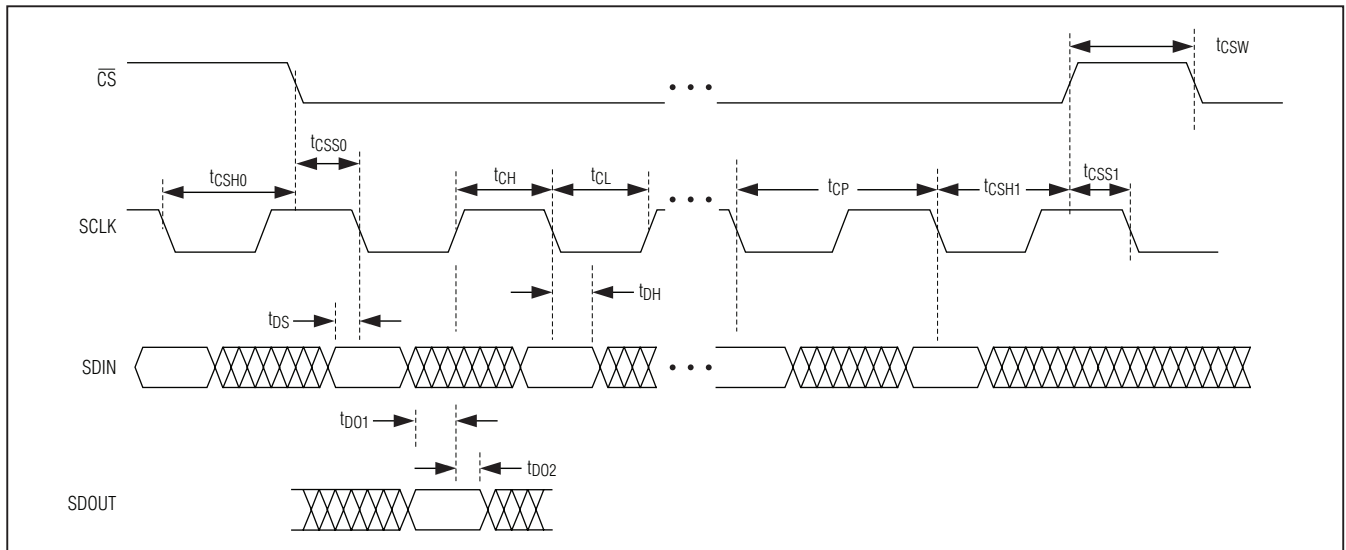

Figure 2. SPI Interface Timing Diagram
**SPI™ TIMING CHARACTERISTICS (Figure 2)**